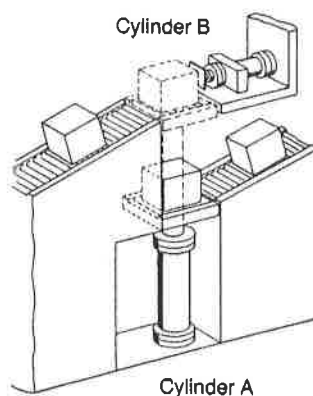

Figure 4
- b) Packages arriving on a roller conveyor are lifted by a **pneumatic cylinder** and pushed onto another conveyor by a second cylinder. Cylinder B **may then perform a return stroke only after** A has reached the rear end position. The start signal should be provided by means of a manual button, each signal initiating one cycle. (Figure 4)